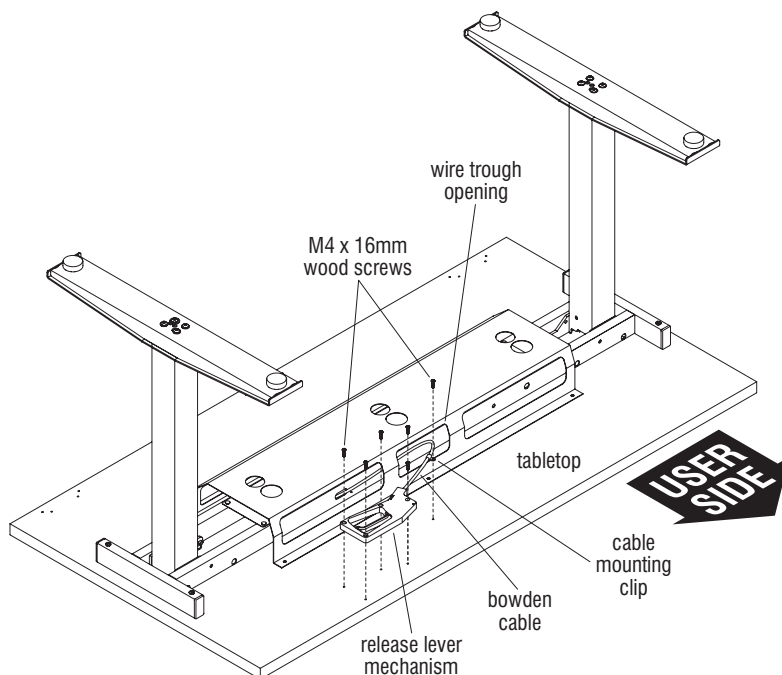

Figure 7
1. Guide the release lever mechanism through the wire trough opening towards the four pre-drilled mounting holes for the release mechanism at the user side of the tabletop. Align the release mechanism holes to pre-drilled holes on the tabletop. Attach the release mechanism to the tabletop using four M4 x 16mm screws (Figure 7).
2. Position a cable mounting clip onto the bowden cable at a location midway along the cable and secure with screw provided to the underside of the tabletop (Figure 7).